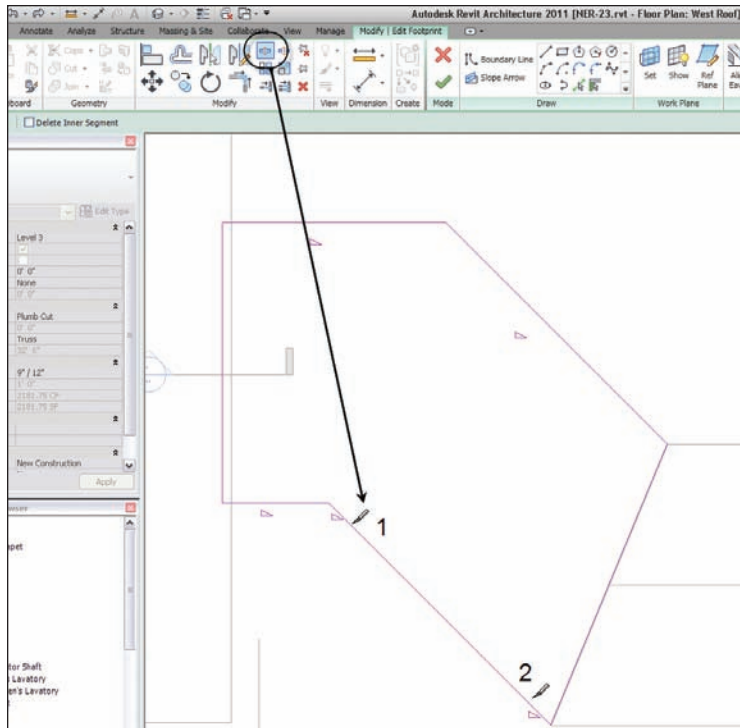

FIGURE 7.60 Splitting the line into three pieces
1. On the Modify | Roofs > Edit Footprint tab, select the Split Element button, as shown in Figure 7.60.
3. Pick two points on the roof edge, as shown in Figure 7.60. The two points are an even 4'-0" in from each edge.